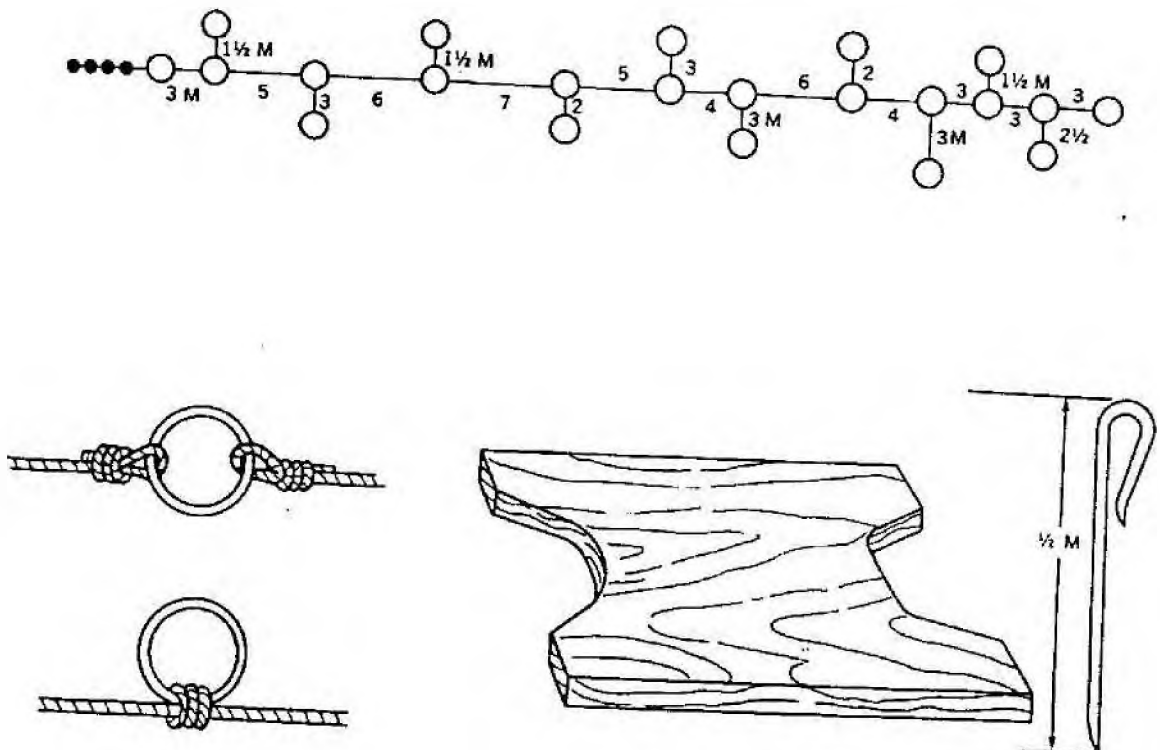

Figure 7-10. Soviet mine spacing cord.
a. *Physical Features.* This device (fig. 7-10) consists of a main cord with branch lines to which metal rings are attached. The rings indicate the spot for the emplacement of a mine. The main cord, with markers at the end to control lateral shifting, has no standard length (it may be 20 meters or more); and the lengths of the branch cord and the distances between them may vary. This device is a means of quick and accurate spacing that may follow a straight line or change direction several times within its length. All